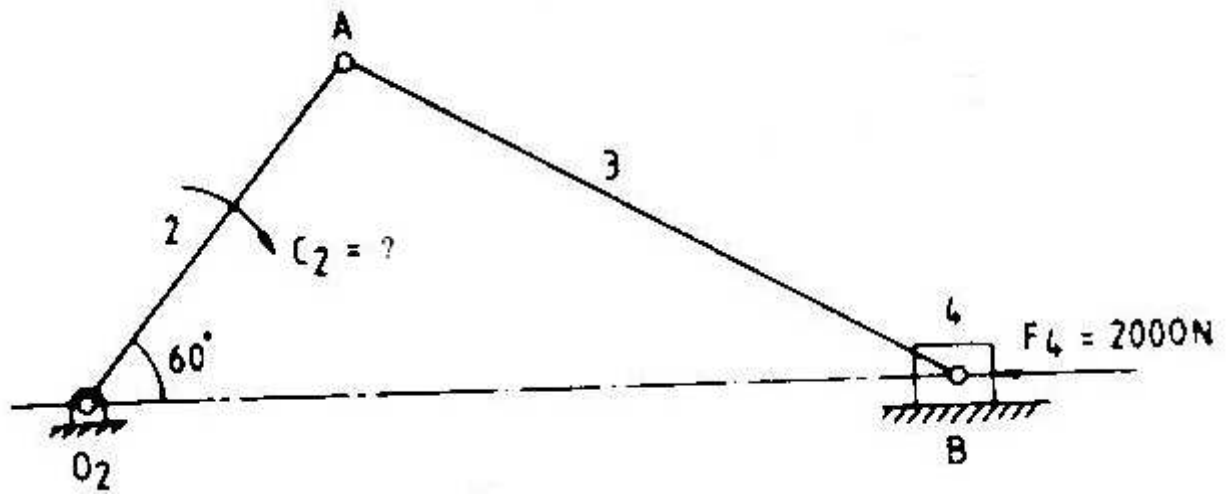

Figure 4:
5. Determine the driving torque available on crank '2', if a force 2000 N is applied on link '4' as shown in Figure 4 below. Also, determine the bearing loads.